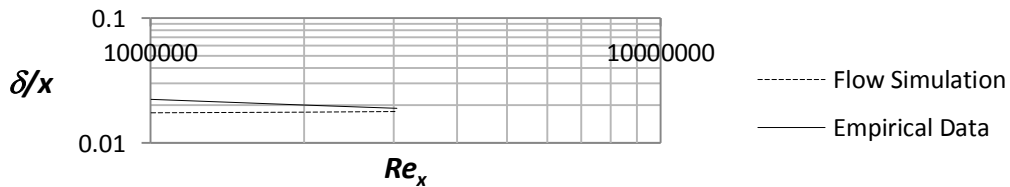

Figure 2.30b) Boundary layer thickness for turbulent boundary layers at $Re_x = 10^6 - 4.1 \cdot 10^6$
Place the file “xy-plot figure 2.30b)” into the **Local Disk (C:)/Program Files /SolidWorks Corp/SolidWorks Flow Simulation/lang/english/template/XY-Plots** folder to make it available in the **Template** list. Repeat step 24 and choose the sketch **x = 0.2, 0.4, 0.6, 0.8 m** and check the box for **Velocity (X)**. Rename the xy-plot to **Turbulent Boundary Layer Thickness**. An Excel file will open with a graph of the boundary layer thickness versus the Reynolds number, see figure 2.30b).